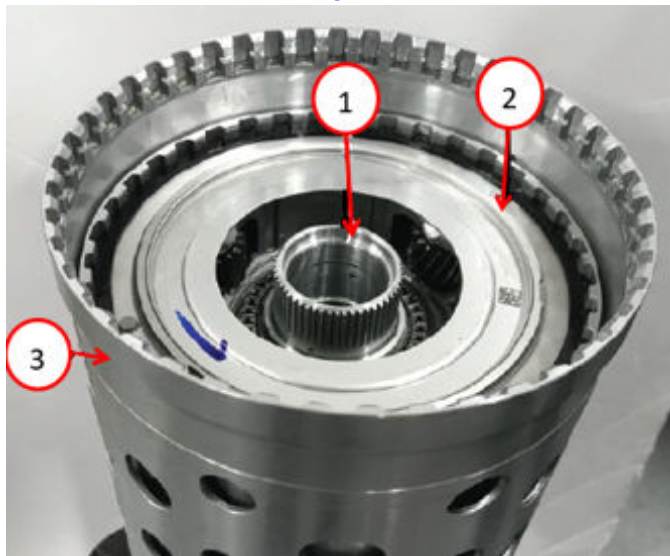

Fig. 27
43. Install the D clutch drum into the P4 annulus drum Fig. 27.